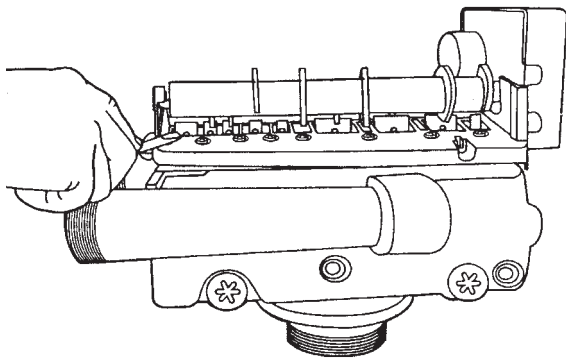

Figure 11: Valve assembly
3. Remove cover and with screwdriver, relieve tank pressure by pushing open valve No. 7 (rear flapper) on control as shown (Figure 11).
3. Relieve system pressure by opening valve No. 7 (at rear) with a screwdriver (Figure 11).
2. Relieve pressure by opening the Backwash Drain Valve (the seventh back from the control) with a screwdriver (Figure 11).